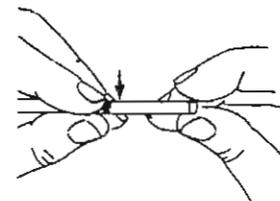

Figure 3-3. Testing the deflection section.
(3) Grasp both ends of the deflection section and pull outward with your fingers as illustrated in figure 3-3. No perceptible elongation of the deflection section should occur at the point indicated by the arrow in the illustration.